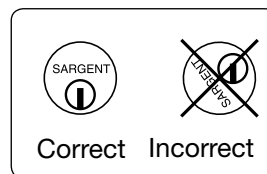

Fig. 6A
1. Verify orientation of cylinder (Fig. 6A).